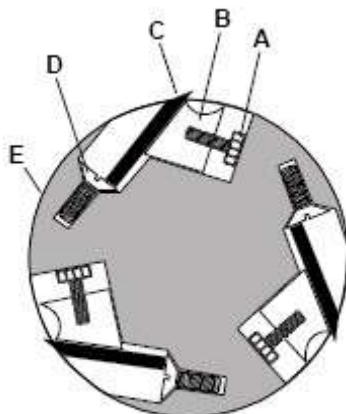

Figure 12
4. Rotate the cutterhead (E) and determine the 12 o'clock position of knife number one. The 12 o'clock position is the highest point a blade will reach in the cutting arc (C, Fig. 12).